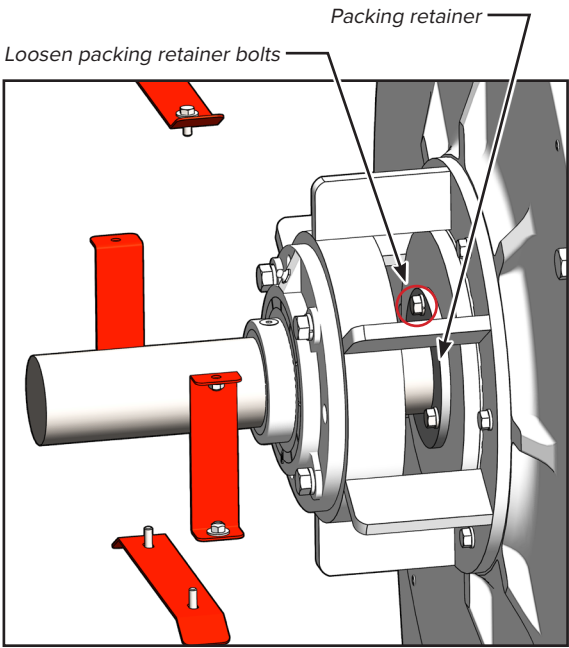

FIGURE 8
4. Loosen packing retainer bolts (figure 8).
5. Slide packing retainer out of the way towards bearing (figure 8) revealing the packing gland pocket.